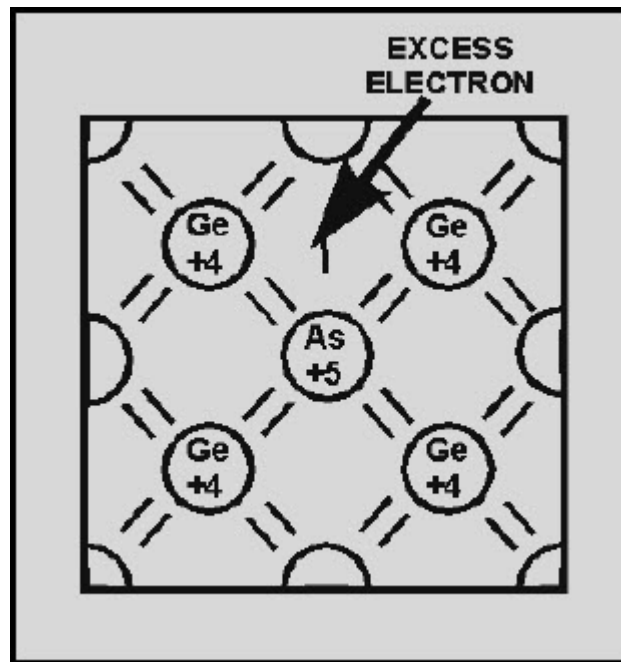

Figure 1-10 Germanium crystal doped with arsenic
The N-type impurity loses its extra valence electron easily when added to a semiconductor material, and in so doing, increases the conductivity of the material by contributing a free electron. This type of impurity has 5 valence electrons and is called a PENTAVALENT impurity. Arsenic, antimony, bismuth, and phosphorous are pentavalent impurities. Because these materials give or donate one electron to the doped material, they are also called DONOR impurities. When a pentavalent (donor) impurity, like arsenic, is added to germanium, it will form covalent bonds with the germanium atoms. Figure 1-10 illustrates this by showing an arsenic atom (AS) in a germanium (GE) lattice structure. Notice the arsenic atom in the center of the lattice. It has 5 valence electrons in its outer shell but uses only 4 of them to form covalent bonds with the germanium atoms, leaving 1 electron relatively free in the crystal structure. Pure germanium may be converted into an N-type semiconductor by "doping" it with any donor impurity having 5 valence electrons in its outer shell. Since this type of semiconductor (N-type) has a surplus of electrons, the electrons are considered MAJORITY carriers, while the holes, being few in number, are the MINORITY carriers.